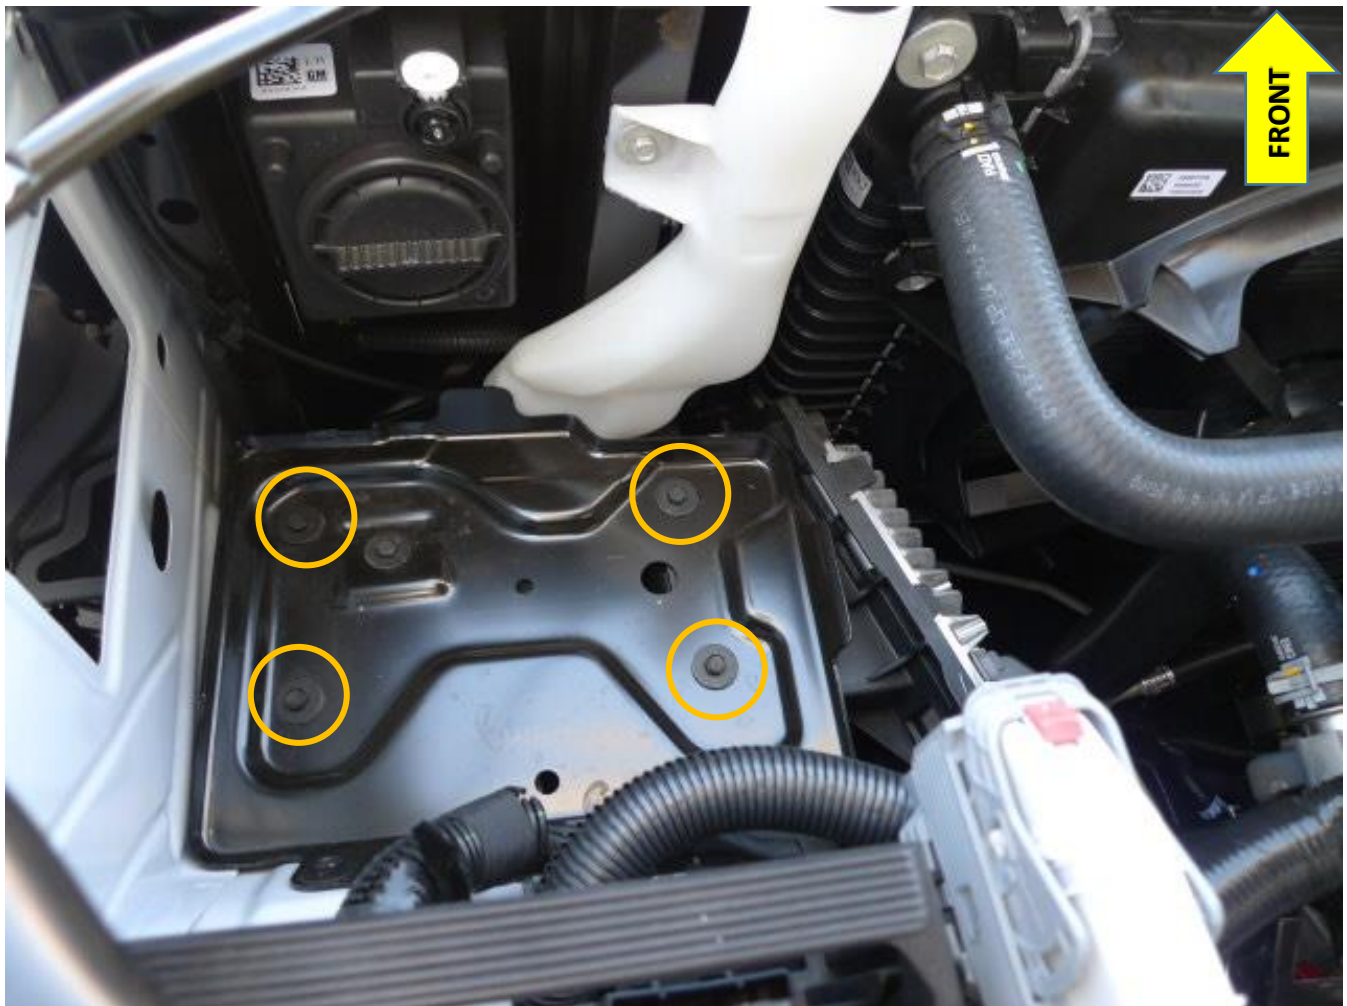

Figure 8 – GM1500-COMP-BRKT and OE 2nd Battery Tray Mounting Bolts to remove
9.1.1.1. Remove Four (4) OE Bolts securing Battery Tray, as shown in figure 8 below.